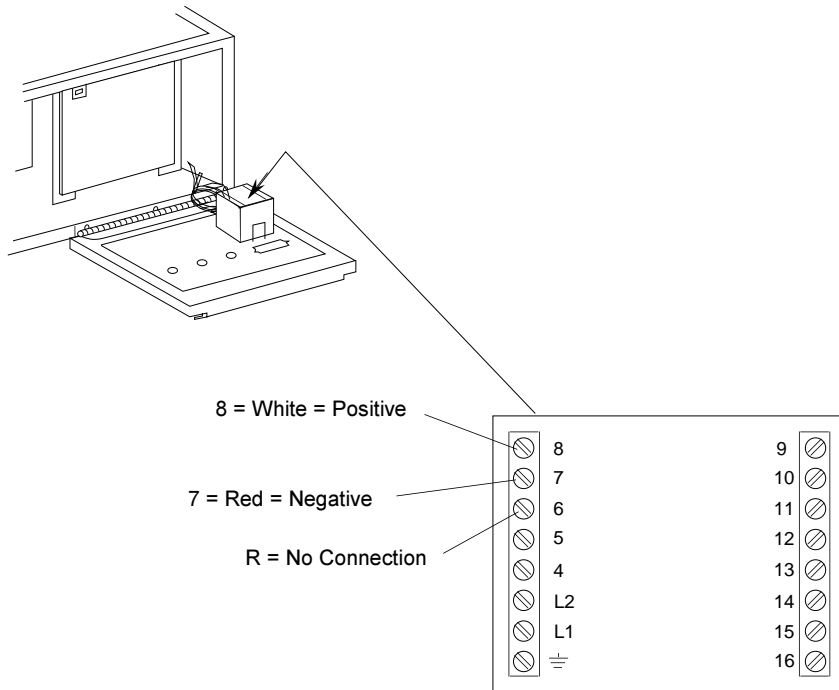

Figure 2-13
4. Connect the thermocouple leads to the temperature controller as shown in Figure 2-13.